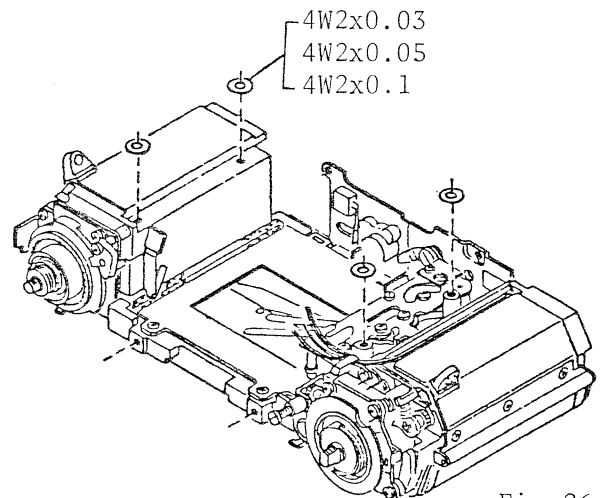

Fig.26
2. Adjustment is made by putting following washers 4W2x0.03, 0.05 or 0.1 required place which are shown in Fig. 26.